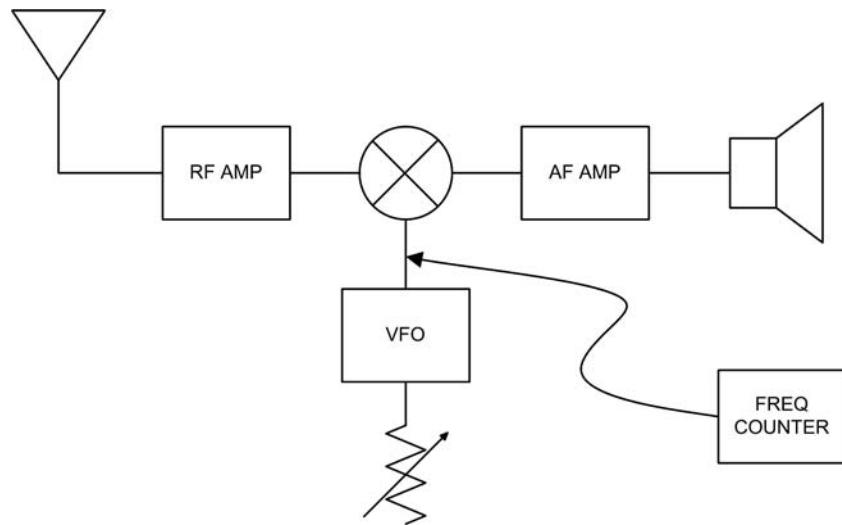

FIGURE 15-17 Direct conversion scheme.
There are a number of Direct Conversion (DC) radio designs available. Figure 15-17 shows how a direct conversion receiver is configured. For the sake of clarity, only the receiver is shown. The receiver consists of an RF amplifier stage followed by a mixer. The VFO is operating at close to the same frequency as the incoming signal. The output is the difference between the frequency of the incoming signal and the VFO frequency. What we want in the output is in the audio range, so if the VFO is close to the received frequency (in other words, within a kHz or so), the difference is an audio signal. We can measure the frequency of the VFO and have a pretty good idea of the received frequency. It won't be exact because we designed the receiver to be slightly off frequency so that we would recover an audio output. If the VFO were exactly the same as the incoming frequency, the difference would be zero and there would be no recovered signal.